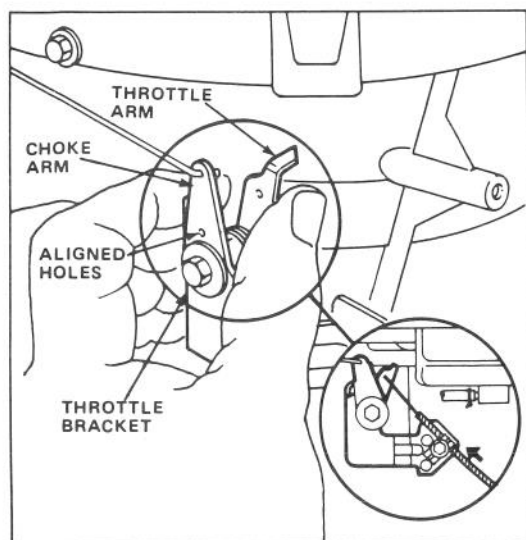

Figure 13
4. Loosen cable clamp screw until throttle cable slides (Fig. 13). Align holes in choke arm and throttle bracket. A small dia. pin may be inserted into aligned holes to hold adjustment. Push throttle cable until throttle arm makes contact with choke arm. Tighten cable clamp. Remove pin if used.